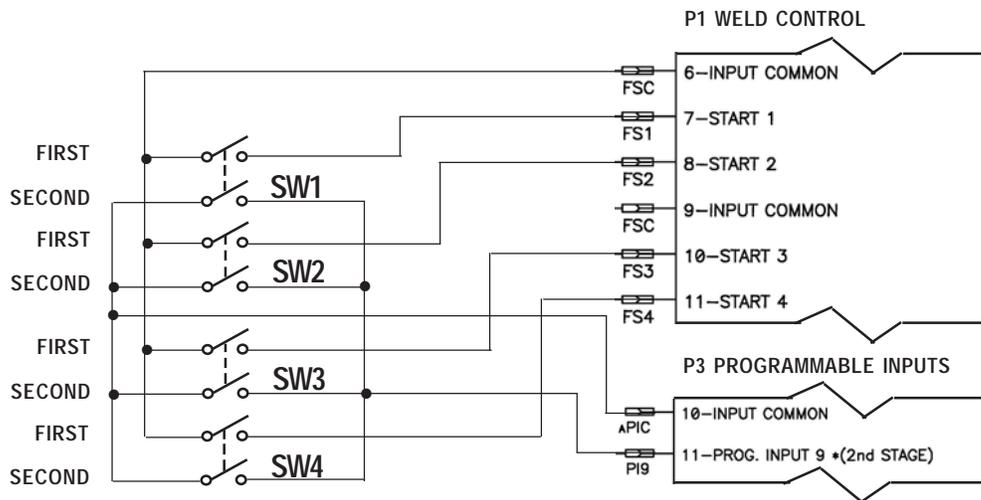

Figure 4-11. Multiple two-stage foot switches connection diagram
1. The foot switches are connected to connectors P1 and P3 of control as shown in Figure 4-11. One (1) to four (4) two-stage foot switches can be used. Activating foot switches SW1 through SW4 will initiate welding sequence in the SCHEDULE associated with activated switch.